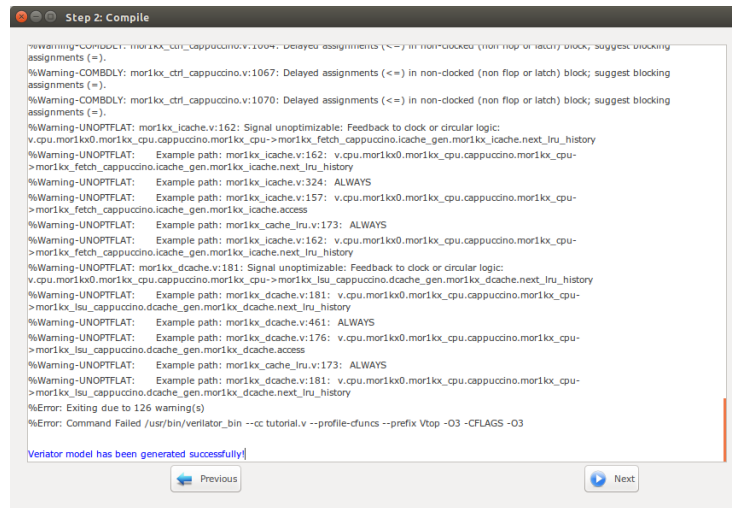

Figure 5.20: Verilator model generation snapshot.
2. The Verilator Model of your SoC should be generated now. If the model is generated successfully, you must see "Veriator model has been generated successfully!" in the Textview window as shown in Figure 5.20.